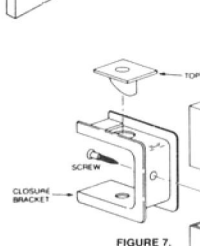

FIGURE 7.
- Insert a top nylon cam into the upper and lower door hinge closure bracket as illustrated so that cam base is flush with inner bracket surface. (see fig 7)